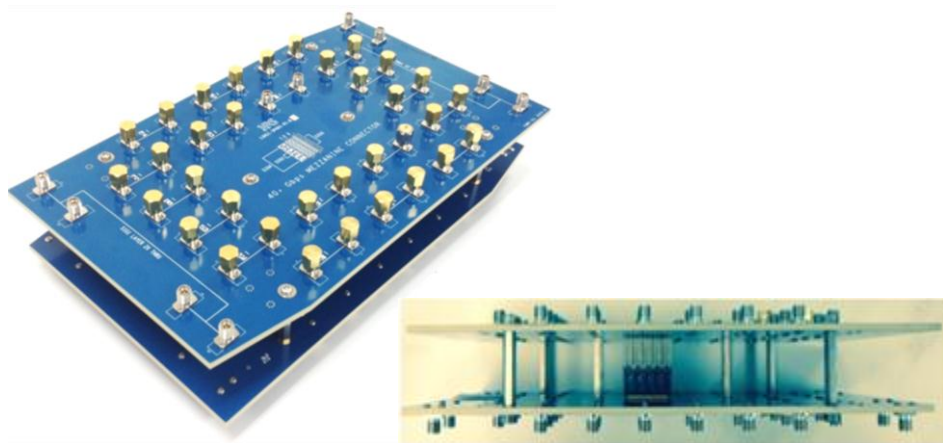

Figure 4-2 Demo board
For high-speed data transmission, the transmitters (TX) and receivers (RX) are usually grouped separately and each differential signal pairs are surrounded by ground blades separately to form quasi-coaxial structures, in order to minimize the effect of near-end crosstalk (NEXT). As for the Three-piece type, its structure utilizes FEXT cancelling feature to achieve over 50Gbps signal transmission even for 40mm+ board spacing. Actual measurements were taken on 130mil test boards (Figure 4-2) with IT8-10mm and IT8-35mm connectors, 2 via transitions through bottom routing layers, and 5"+5" Megtron 6 PCB traces.